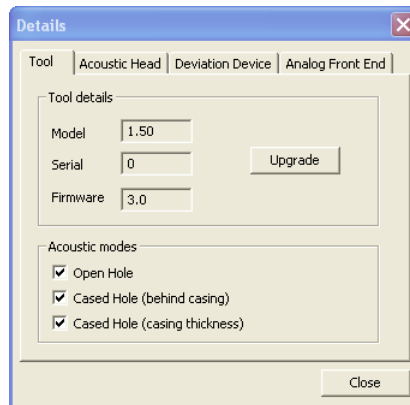

Figure 6-12 Tool Details dialog box
1. Click on **Tool Details**. Note that the firmware version currently in use is displayed in the firmware box. Click on the **Upgrade** button (Figure 6-12).